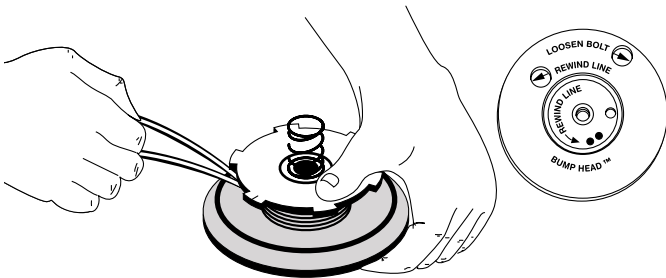

Fig. 36
- Wind the lines in tight even layers, onto the reel (Fig. 36). Wind the line in the direction indicated on the inner reel. Place your index finger between the two lines to stop the lines from overlapping. Do not overlap the ends of the line.